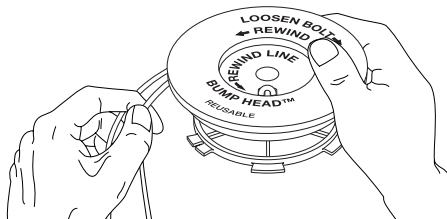

Fig. 28
- Wind the lines in tight even layers, onto the reel (Fig. 28). Wind the line in the direction indicated on the inner reel. Place your index finger between the two lines to stop the lines from overlapping. Do not overlap the ends of the line. Proceed to step 11.